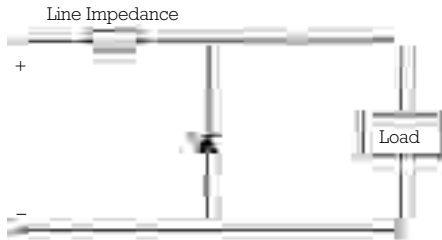

Fig. 10
6.1. Protection against line transient (fig. 10)